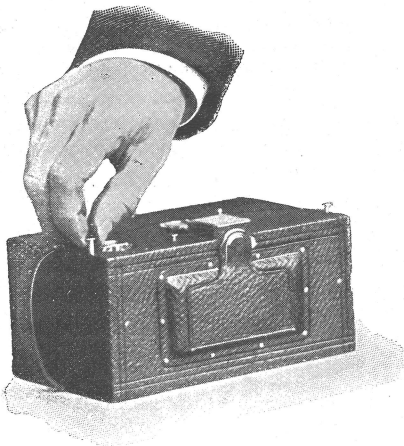

Fig. 1.
1. Take a position at a table as far as possible from any window, place the Kodak on the table and pull up the pins at either end of the top as in Fig. 1. This unlocks the Kodak so that it can be opened for loading.